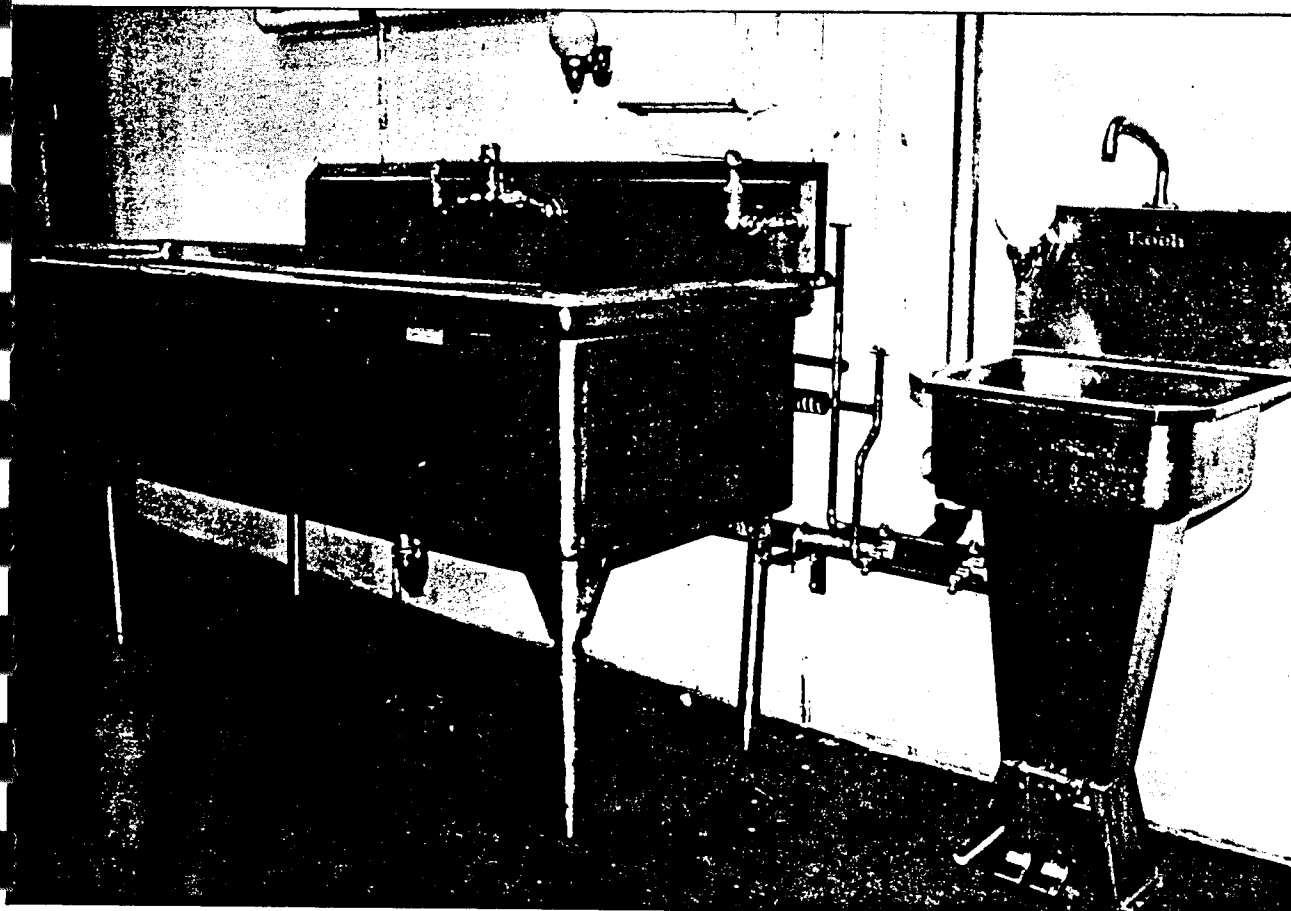

FIG. 8-2 Large deep-well stainless steel sinks are used for utensil cleaning.
**Equipment for Cleaning Room.** The cleaning room should have a large, deep-well utensil cleaning sink constructed of stainless steel. The sink should be equipped with a water mixing valve supplied with an adequate quantity of hot and cold water. (*Figure 8-2*) Mount a separate hose cleaning station on the wall in a convenient location. (This station may be part of, or similar to, the stations described later in this chapter under Central Cleaning Systems.) Depending on your preference, it may be either a high-pressure, low-volume system or a low-pressure, high-volume system. Since the room is specifically designed for wet cleaning you might find a low-pressure, high-volume system more useful. The room should also have a separate wall-mounted sanitizing